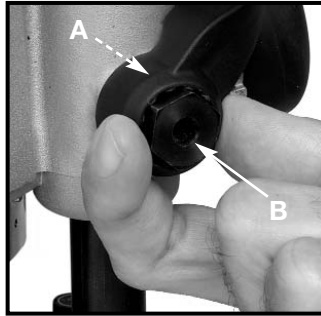

Fig. 12
3. Push in on the plunge locking lever (A) Fig. 12 to expose the head of plunge-locking bolt (B) Fig. 12.
4. While holding plunge-locking lever in (A) Fig. 12, turn plunge-locking bolt (B) Fig. 12 clockwise to turn the plunge-locking bolt in or counterclockwise to turn the plunge-locking bolt out. Turn it one position at a time until proper adjustment is achieved. Proper adjustment is indicated when the plunge-locking lever (A) Figs. 13 and 14 can be locked into the free motion position (Fig. 13), and into the plunge-locked position (Fig. 14).